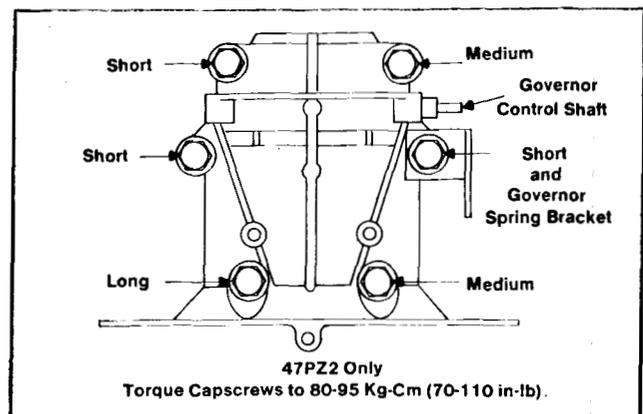

Figure 4-3
6. There are three different size capscrews on the model 47PZ2 to hold the crankcase halves together. (The capscrews on the 47PD3, 47PE4 and 47PF5 are all the same length). Starting on the governor control shaft side install the two medium sized capscrews at either end. Install one short capscrew and governor spring bracket in the center hole. Install the other two remaining short capscrews into the other side in the center hole and the hole nearest the large end of the crankshaft. Install the long capscrew in the remaining hole. Torque all capscrews evenly 80-95 Kg-Cm (70-110 in-lb). See Figure 4-3. Position the engine mower